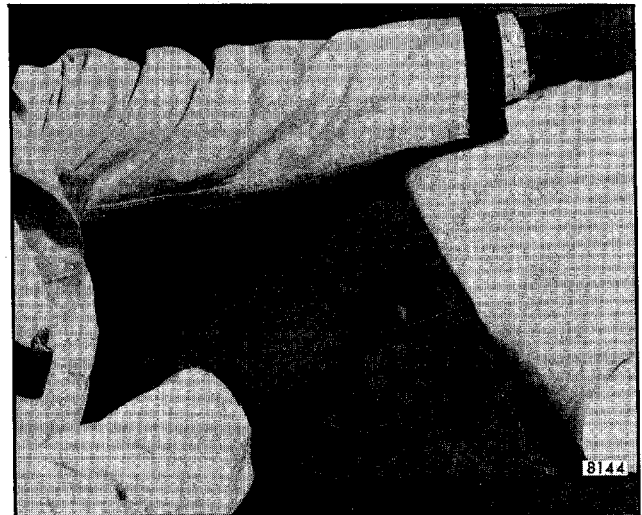

Fig. 8-43-Separating Wrinkled Area from Roof Panel - Flat-Bladed Tool Application
7. Separate the wrinkled area from the roof panel by either applying heat with a hot air gun while simultaneously pulling on the roof cover (Fig. 8-42), or by carefully separating the cover from the roof panel with a flat-bladed tool such as a putty knife (Fig. 8-43).